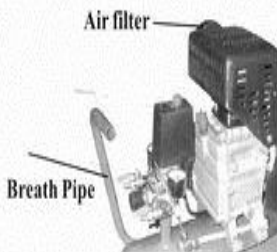

Fig.3
- (1) Put the cover off first and put on the breath pipe and air filter before the compressor run (Fig.3).
- (2) Never unscrew any connecting part when the tank is in pressure condition.
- (3) Never disassemble any electrical part before disconnecting the plug.
- (4) Never adjust the safety valve carelessly.
- (5) Never use the compressor in place where voltage is too low or too high.
- (6) Never use electric wire more than 5m long with less than the section shown in table 1.
- (7) Never disconnect the plug to stop compressor, set the switch knob in position off instead.
- (8) If the release valve doesn't work as motor stopped, find the cause immediately so as not to damage motor.
- (9) Lubricating oil must be clean, oil level should be kept in the red circle of leveler.
- (10) Disconnect the plug to cut off power supply and open the outlet valve.